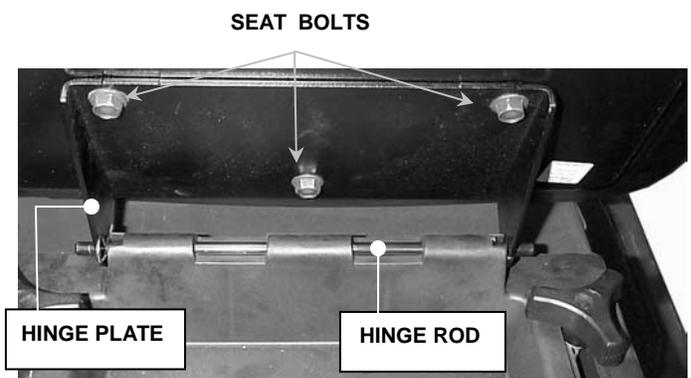

FIGURE 3
1. To install the seat, remove hair pin from hinge rod and slide hinge rod from seat pedestal. See Figure 3.
2. Check seat bolts to insure hinge plate is tightened securely to the bottom of the seat. See Figure 3.
3. Align hinge plate with the seat pedestal assembly and insert hinge rod. See Figure 3.